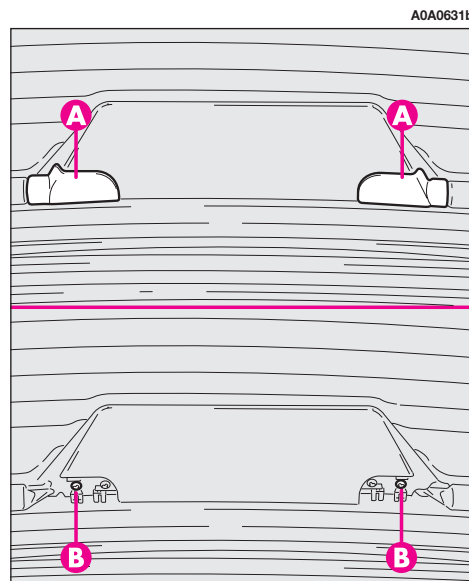

fig. 36
- Open the tailgate and use a screwdriver to open the two covers (**A**-fig. 36);